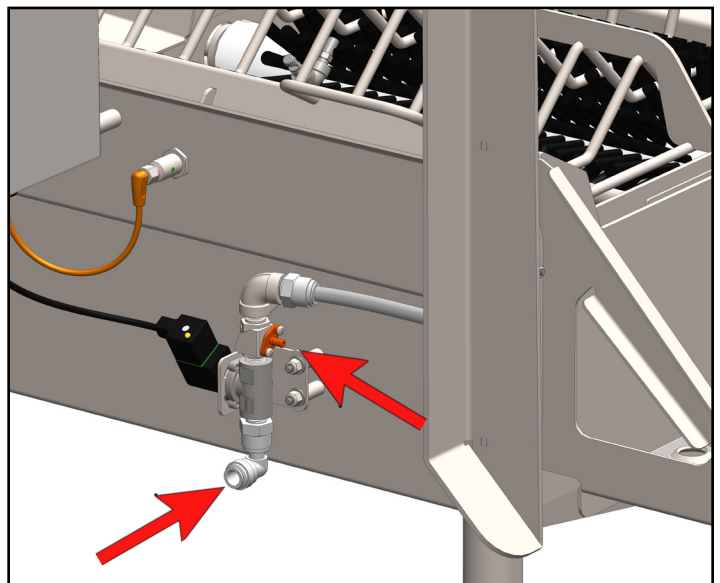

Fig. 5.2: Water and Venturi Injector (solution) inlets
1. Connect water source to solenoid valve quick fitting inlet using 1/2" Polyethylene tubing or similar [Figure 5.2].
3. With the metering tip installed, connect solution source to orange hose barb of the Venturi Injector (located above water inlet) using 1/4" clear PVC tubing (included) [Figure 5.2].